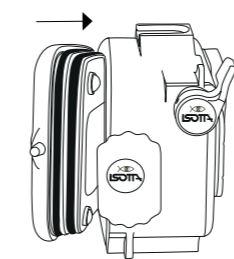

Figure 5
- Insert the two pins on the left side of the Back into the appropriate slots on the Front Body, keeping the Back in an oblique position; (fig. 5)